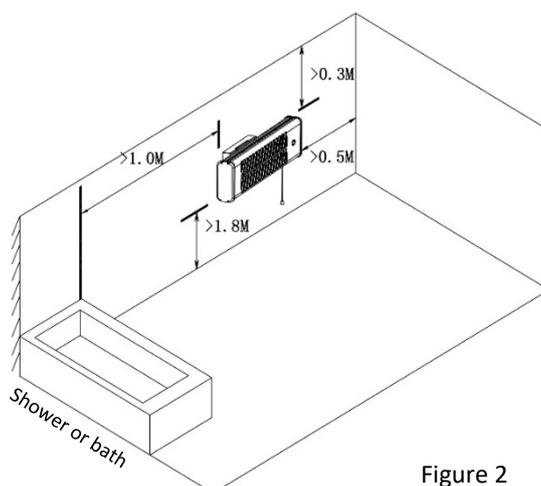

Figure 2
6. Position the device according to the spacing requirement shown in Figure 2 below.